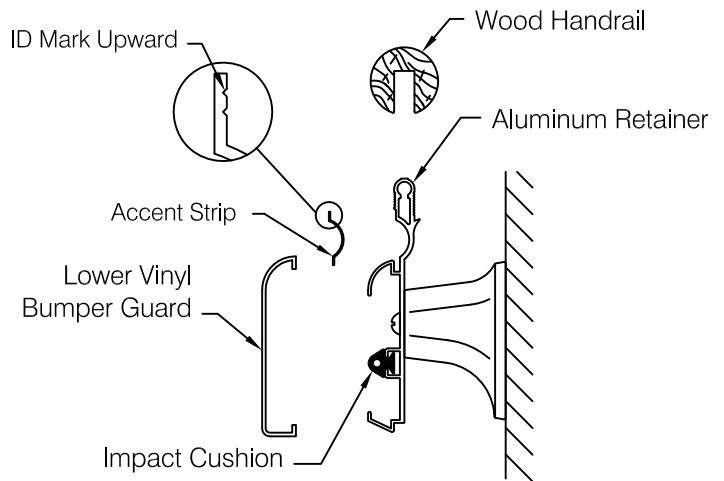

fig 6
- Step 6:** Cut flexible impact cushion to length slightly shorter than the aluminum and slide into retainer, refer to **fig 6**.
- Step 11:** Place accent strip in finger groove of rail, ID mark upward, see **fig 6**. Snap on the lower bumper guard.